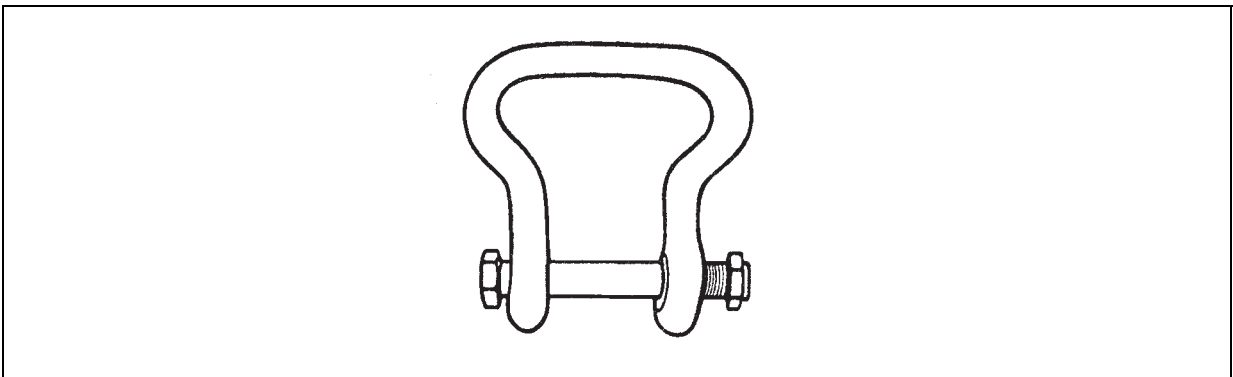

Figure 8-33. Medium Clevis Assembly (Part No. MS 70087-2)
- **Medium Clevis.** The medium clevis (figure 8-33) can lift single lift point loads up to a maximum weight of 6,250 pounds. It also can be used to attach sling legs of a four-legged sling set to a load weighing up to 15,000 pounds. If the load has two or three attachment points, the maximum load weight is 7,500 and 11,250 pounds, respectively. It is commonly used to join the four suspension web straps on the A-22 cargo bag. The medium clevis has a 3/4-inch bolt and nut.